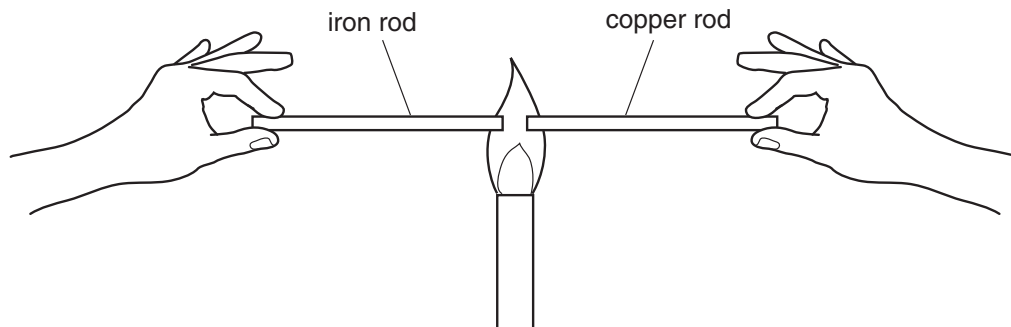

Fig. 4.1
- (b) An iron rod and a copper rod of equal length are each held by hand at one end, with the other end in the flame from a Bunsen burner, as shown in Fig. 4.1.